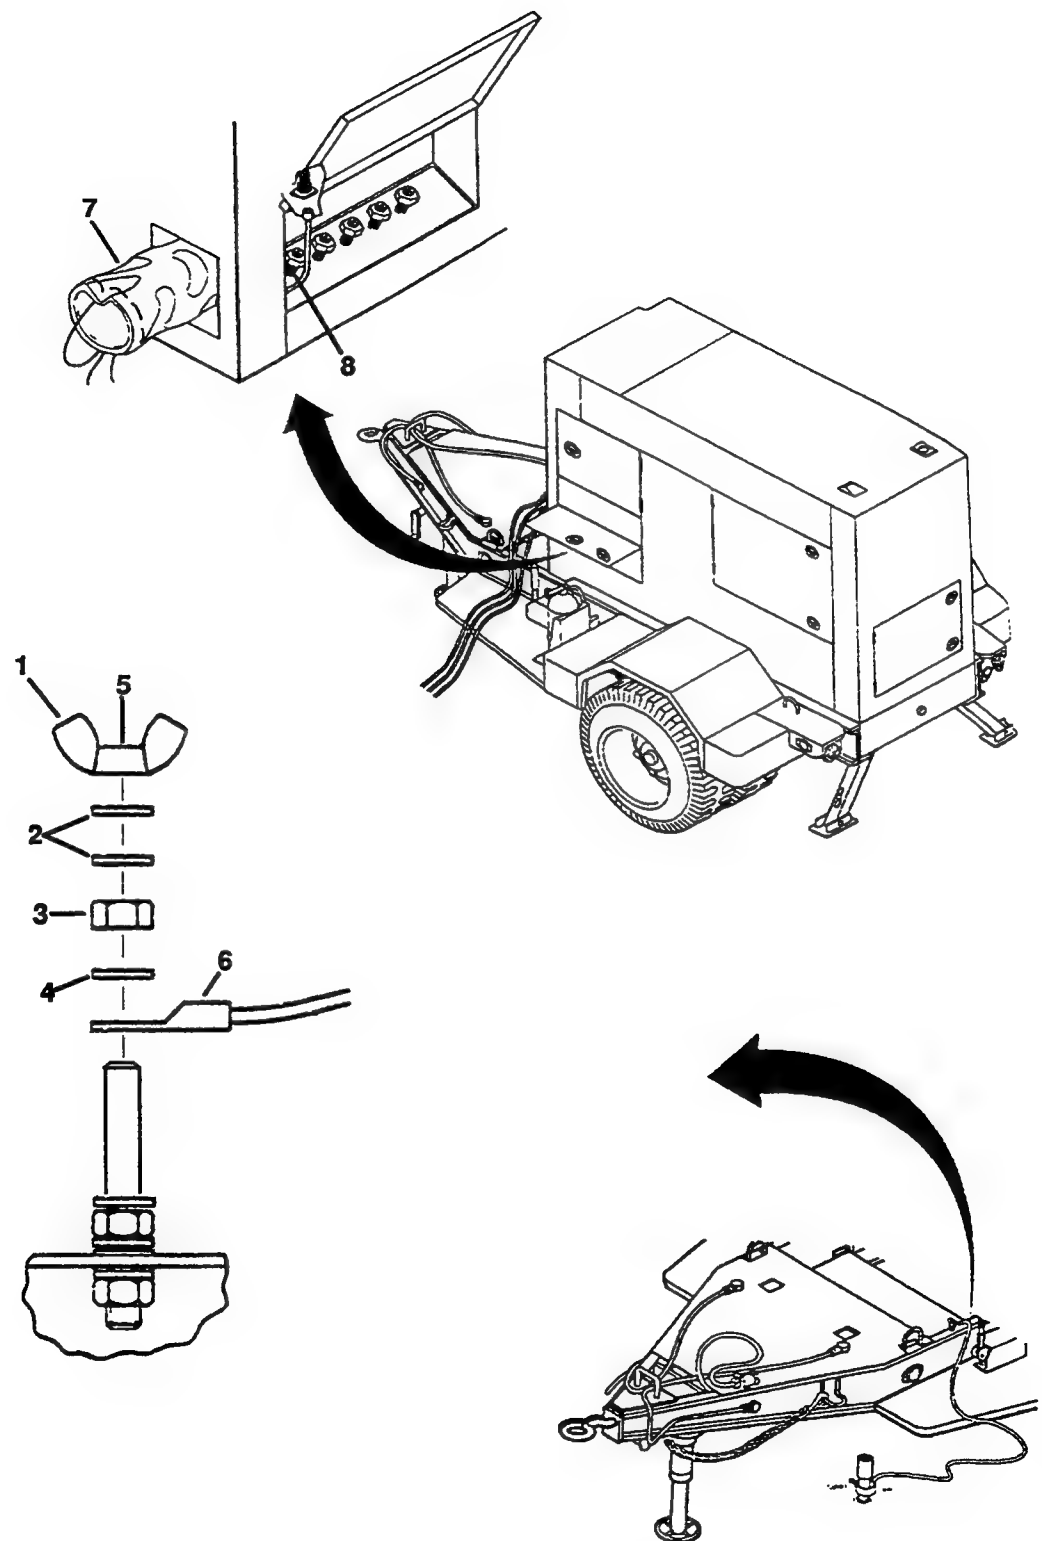

Figure 4-2A. Installation Instructions
Refer to **figure 4-2A** and assemble the AN/MJQ-40 as follows.
- (1) Remove wing nut **(1, figure 4-2A)** two flat washers (2), hex nut (3), and flat washer (4) from ground stud (5).
- (2) Place ground wire (6) over ground stud (5).
Refer to **figure 4-2A** and assemble the PU-803 and PU-804 as follows.
- (1) Remove wing nut **(1, figure 4-2A)**, two flat washers (2), hex nut (3), and flat washer (4) from ground stud (5).